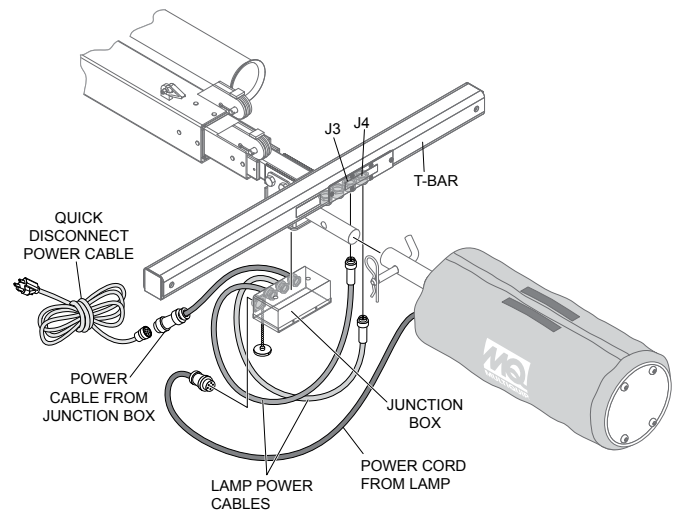

Figure 10. Junction Box Connections
5. Unscrew the cap from the lamp power connector on the junction box. Connect the power cord from the LB2000 lamp fixture to the junction box as shown in Figure 10.
6. Connect the lamp power cables from the junction box to the T-Bar connectors (J3 and J4) as shown in Figure 10.
2. Insert the quick-disconnect connector end of the power cable into the junction box. See Figure 10.